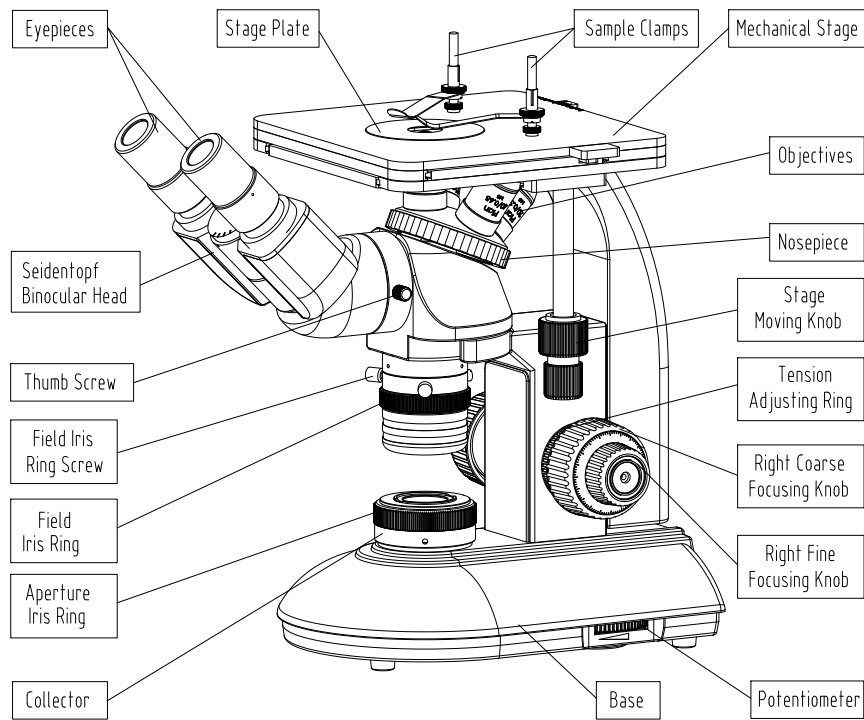
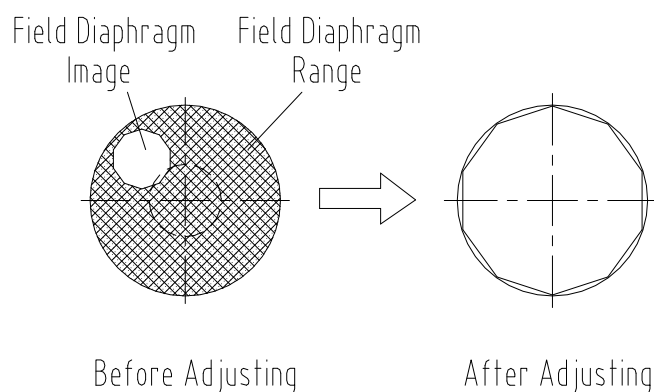
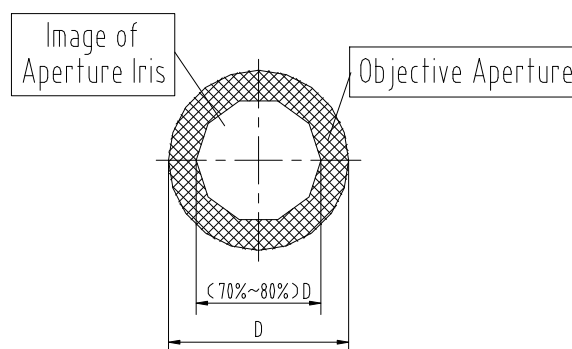

Fig.1 MDJ200 Metallurgical Microscope
Fig.4
Fig.5
3.2.5 Field Iris Adjustment (As shown in Fig.1 and Fig.4)
3.2.6 Aperture Iris Adjustment (As shown in Fig.1 and Fig.5)